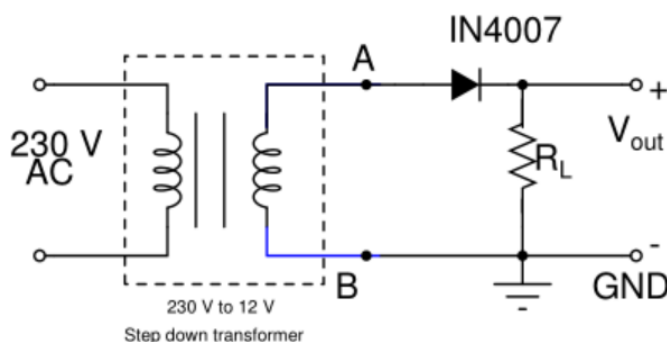

Fig 1.1 Half-wave rectifier circuit
- Wire the half-wave rectifier circuit of Fig 1.1 neatly and carefully on the breadboard. $R_L = 1\text{ k}\Omega$. **Take extra care in wiring the diode and the load resistance correctly.**
Take extra care to avoid shock. The primary side of the transformer has already been insulated and connected to a plug. You should use only the two leads of the transformer secondary for circuit connections, i.e. points A and B shown in Fig.1.1.
The half-wave rectifier circuit of Fig. 1.1 is modified and re-drawn in Fig.1.3. In the modified circuit, a large value capacitor ($1000\text{ }\mu\text{F}$) is connected across R_L . Please note from Fig.1.4 the -ve terminal of the capacitor.
- Switch-OFF power to the transformer. Modify the circuit of Fig.1.1 so as to connect the $1000\text{ }\mu\text{F}$ electrolytic capacitor C across R_L . **Take extreme care to see that -ve terminal of the electrolytic capacitor is connected to the GND and the +ve terminal to V_{out} .**